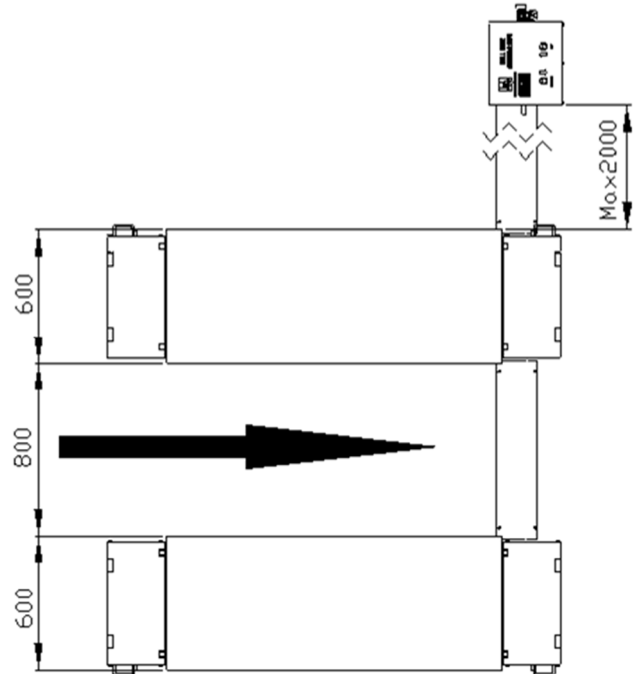

Fig. 3
1. Place the lift according to figure 3, use chalk to make grid for the base position, according to the drive-on direction of the lift.